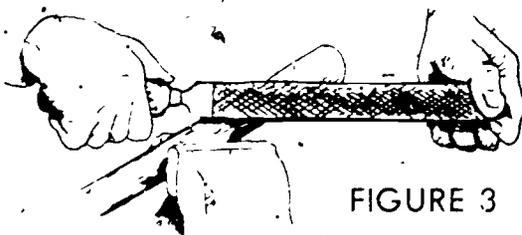

FIGURE 3
- E. Work the new handle down to size with a rasp, trying the handle in the head frequently (Figure 3)